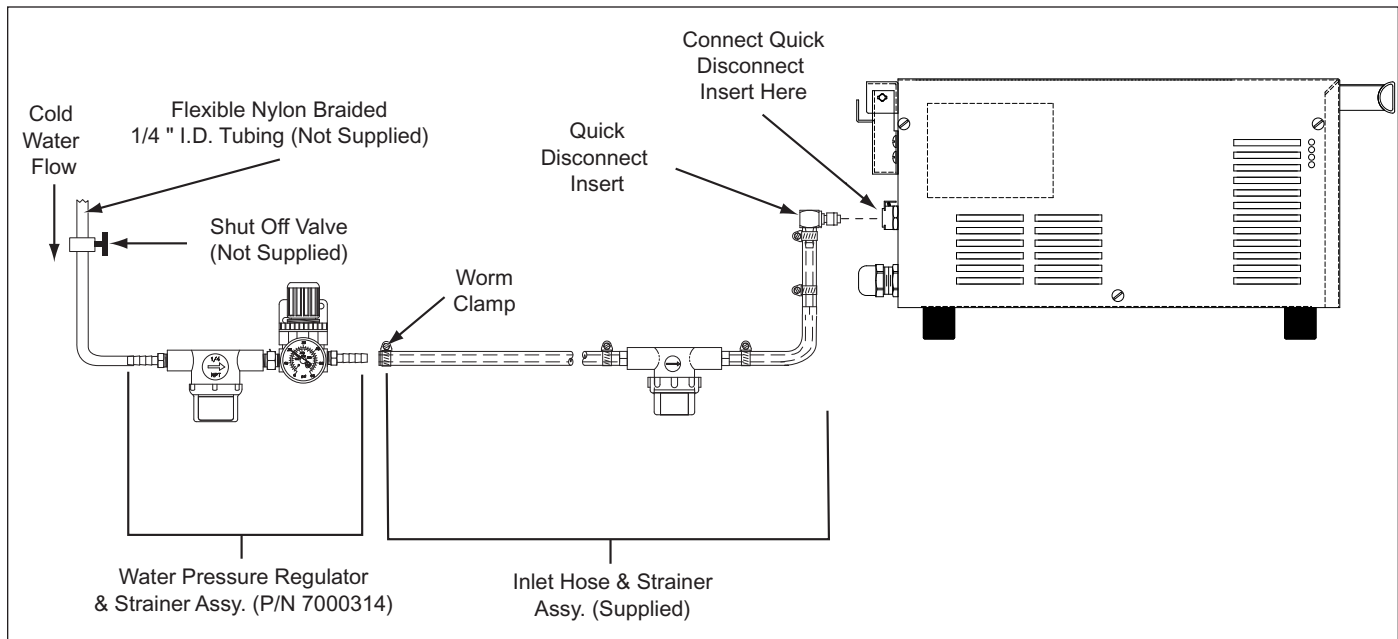

Figure 4. Connecting Water Supply to DFW/DFWT/DFWF-200/250
These models require a direct cold water hookup. A Water Inlet Hose and Strainer Assembly (Figure 4) is supplied.
1. Turn off the water valve (not supplied) that provides water to the unit (Figure 4).
2. Connect the 1/4" (6.5 mm) I.D. Flexible Tubing to the outlet side of the Water Pressure Regulator and secure using the worm clamp (Figure 4).
NOTE: A Water Pressure Regulator must first be installed as shown in Figure 4. Failure to do so will result in poor steaming and possible flooding. For a single steamer, use Water Pressure Regulator P/N 7000314. For two adjacent steamers, use Water Pressure Regulator P/N 7000235.
4. Over a bucket, press and hold the white plastic tip on the Quick Disconnect Insert (Figure 4) until a good, steady water flow is noted (this will purge all air out of the line).
5. Push the Quick Disconnect Insert into the fitting at the rear of the unit until it clicks into place (Figure 4).